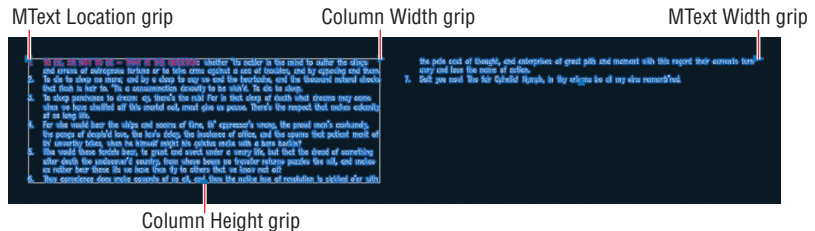

FIGURE 10.14 Moving the bottom grip up to create two columns
1. Click the numbered Hamlet text once to select it and reveal its grips. Toggle off Object Snap. Click the Column Height (bottom) grip, move it upward, and click again, automatically creating two columns, as shown in Figure 10.14.